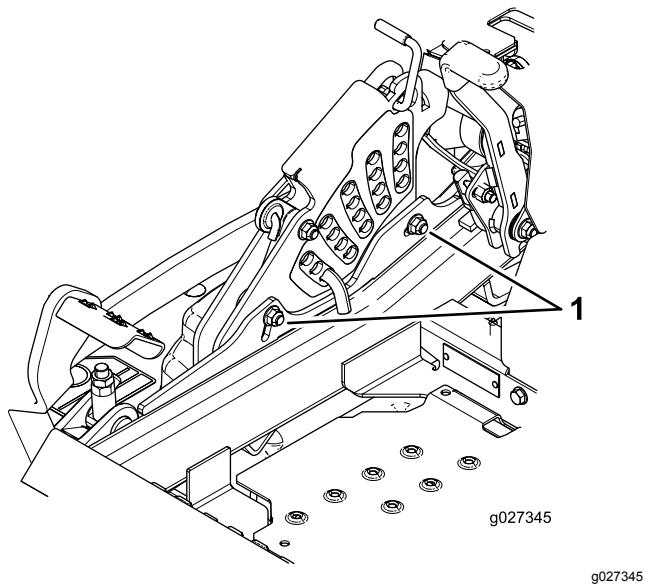

Figure 98
- To adjust the single-point system, loosen the 2 bolts at the bottom of the height-of-cut plate (Figure 98).
- Tighten the 2 bolts at the bottom of the height-of-cut plate (Figure 98).